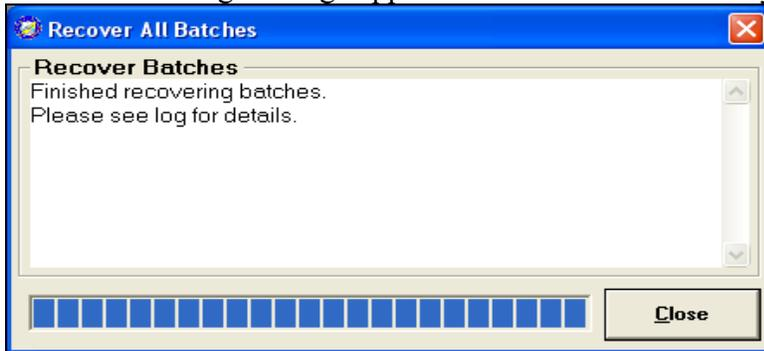

Figure 3.35
16. The following message appears when the batch recovery is complete. (Figure 3.35)